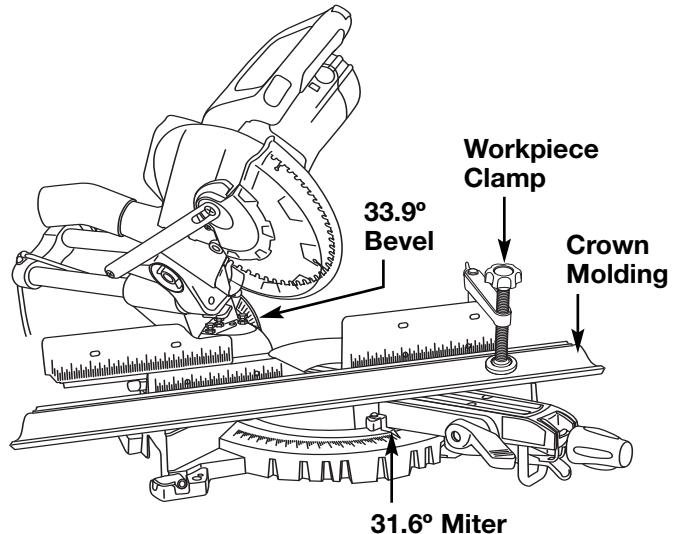

Figure 33. Crown Molding Laying Flat
1. Set the bevel and miter angles using Chart 1 below. Tighten the miter lock knob and the bevel lock handle (Figure 33).